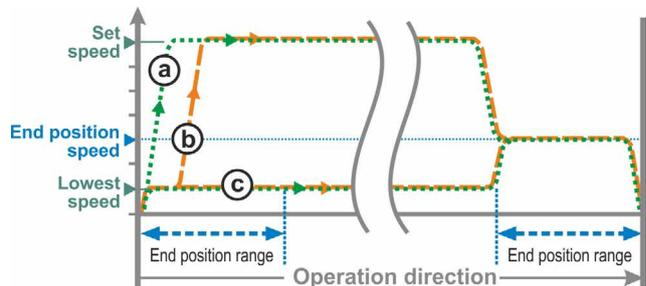

Fig. 2: End position speed 'Quick start'
- For **travel-dependent** cut-off, it will be immediately changed to the set speed to keep the runtime as short as possible. Refer to fig. 2, curve **a**.